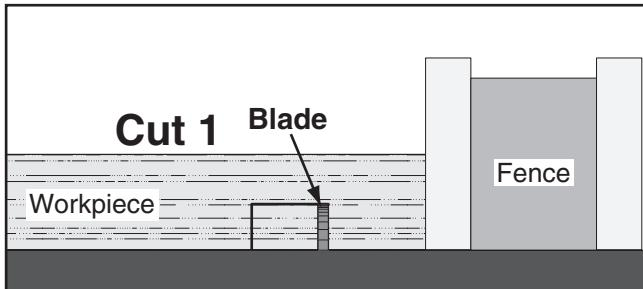

Figure 64. First cut for a single-blade dado.
- Align blade to cut one side of dado, as shown in **Figure 64**.